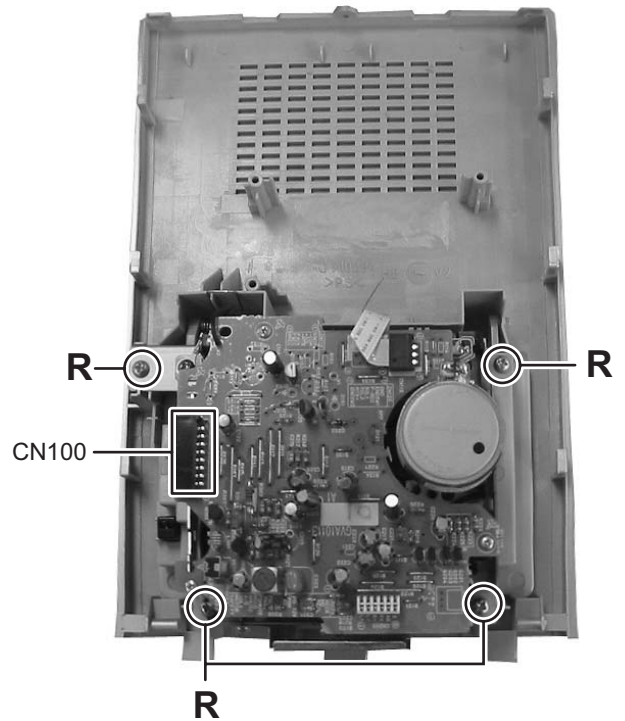

Fig.5
### 3.1.3 Removing the top cover (See Fig.5)
(See Fig.5)
### 3.2.4 Removing the CD servo board (See Fig.5 and 6)
- (1) Remove the two screws **D** attaching the CD servo board from bottom side of traverse mechanism assembly. (See Fig.5)
- (2) Remove the solder from solder part **e** of the CD servo board. (See Fig.5)
- (3) Remove the yellow wire from solder part **f** of the CD servo board. (See Fig.5)
- (4) Remove the white wire from solder part **h** of the CD servo board. (See Fig.5)
- (5) Remove the CD servo board to upper side, disengage the hook **c** to direction of the arrow 1 then turn over the CD servo board. (See Fig.5)